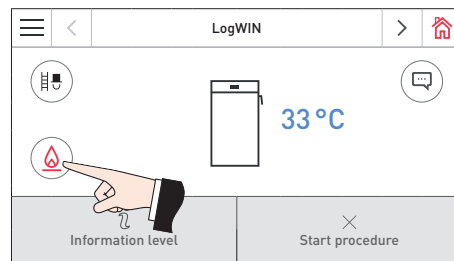

Fig. 13
is displayed on the InfoWIN Touch – Fig. 13.
- 4.) Press the **ignition** button ; "Ignite now", "With off period" and "Ignite automatically" are shown on the display – Fig. 13.